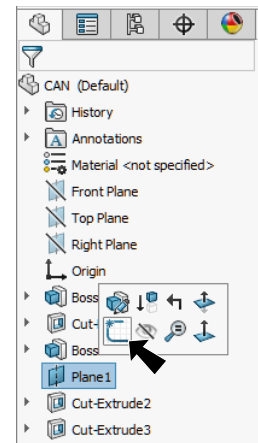

Fig. 58
Step 1. Click **Plane1**  in the Feature Manager and click **Sketch**  on the context toolbar, **Fig. 58**.